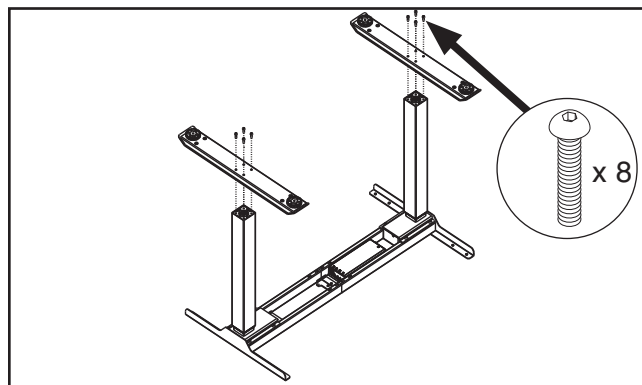

Figure 5. Installing feet.
3. Attach feet to bottom of lifting columns with (8) M6-1 x 16 button head cap screws (see **Figure 5**).